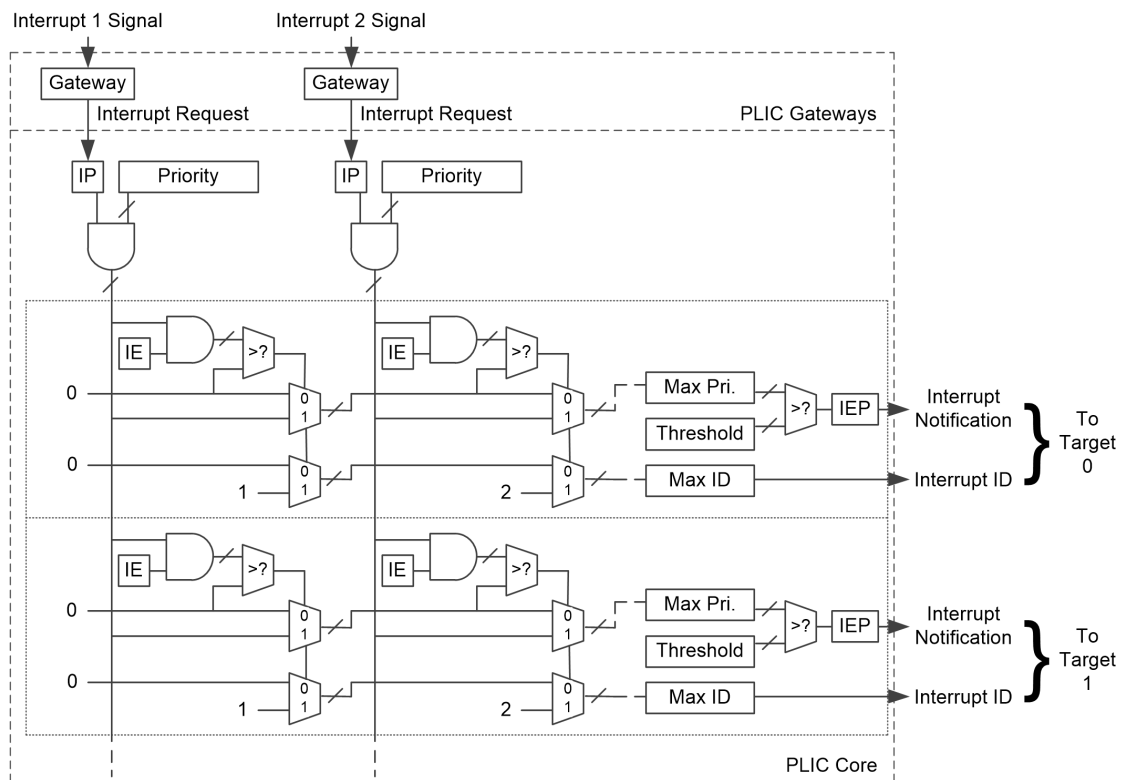

Figure 5.3. Platform-Level Interrupt Controller (PLIC) conceptual block diagram.
Platform-Level Interrupt Controller prioritizes and distributes global interrupts in a processor system. Figure 5.3 provides a quick overview of PLIC operation. The PLIC connects global interrupt sources to interrupt targets, which are usually hart contexts. The PLIC contains multiple interrupt gateways, one per interrupt source, together with a PLIC core that performs interrupt prioritization and routing. Each interrupt source is assigned a separate priority. The PLIC core contains a matrix of interrupt enable (IE) bits to select the interrupts that are enabled for each target. The PLIC core forwards an interrupt notification to one or more targets if the targets have any pending interrupts enabled, and the priority of the pending interrupts exceeds a per-target threshold. When the target takes the external interrupt, it sends an interrupt claim request to retrieve the identifier of the highest-priority global interrupt source pending for that target from the PLIC core, which then clears the corresponding interrupt source pending bit. After the target has serviced the interrupt, it sends the associated interrupt gateway an interrupt completion message and the interrupt gateway can now forward another interrupt request for the same source to the PLIC.